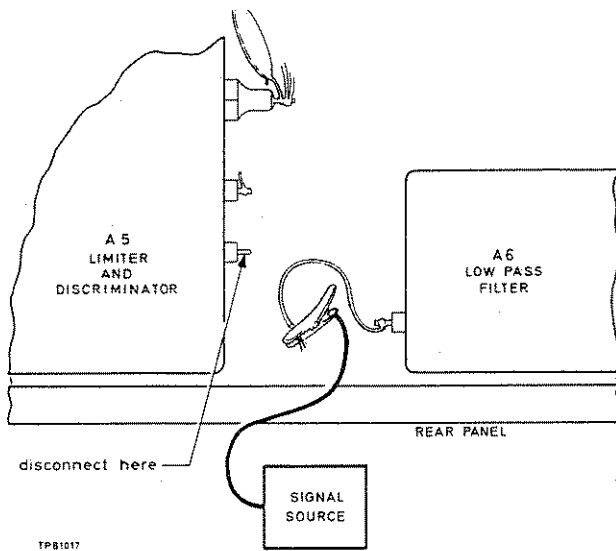

Fig. 5.3 Location of discriminator output lead
- (1) Connect the r.m.s. voltmeter and the oscilloscope to the OUTPUT socket.
- (2) Turn the OSCILLATOR switch to EXT.
- (3) Connect the 1.5 MHz crystal oscillator to the RF IN socket and turn the FREQUENCY RESPONSE switch to NOISE.
- (4) Turn the FUNCTION switch to SET FREQ FM and check that the meter deflects to the SET mark.
- (5) Turn the FUNCTION switch to TUNE and adjust the LEVEL control to bring the meter reading to the top end of the black arc.
- (6) Turn the FUNCTION switch to SET CAL and adjust the r.m.s. voltmeter range switch to give a convenient reference level. Note this reference level.
(7) Turn the FUNCTION switch to DEV+ and the MODULATION RANGE switch to 5 kHz. Increase the external voltmeter sensitivity and check that the reading is at least 55 dB below the reference level, i.e. -75 dB relative to the level of 50 kHz deviation. If satisfactory, then noise is not due to the discriminator or l.f. circuits but may be due to the oscillator or the power supply.
(8) If not satisfactory, remove the yellow lead from the discriminator output, A5 pin 4 (see Fig. 5.3) and check that the noise level drops to at least -68 dB. A high noise figure can be improved by selection of transistors VT3, VT4, VT5 (most prone to cause noise) and VT6 in the discriminator (A5). The noise display on the oscilloscope should be free of any ripple or hum components, if these are present suspect unit A13, IC3 and IC4 (-18 V and -12 V regulators).